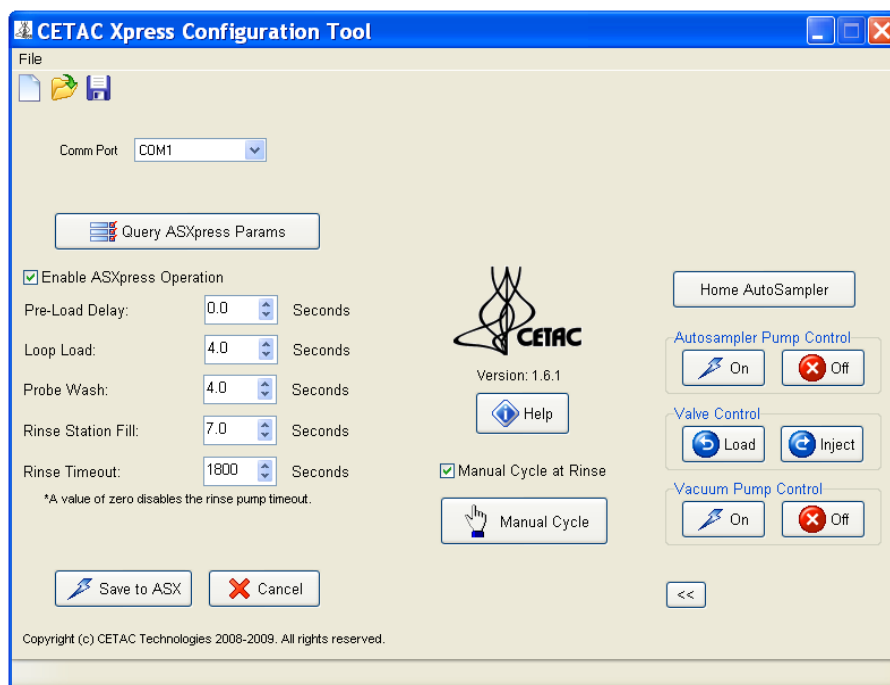

Figure 1-52 Xpress Configuration Tool—Expanded Window
- 4 Click on the “double arrow” button at bottom right of the window, expanding it to reveal the manual commands (Figure 1-52).